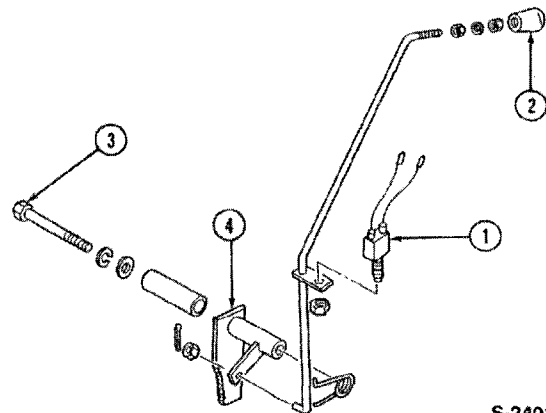

Figure 29
15. Remove the parking brake mounting bolt (3), Figure 29, and remove the parking brake linkage and switch as an assembly.